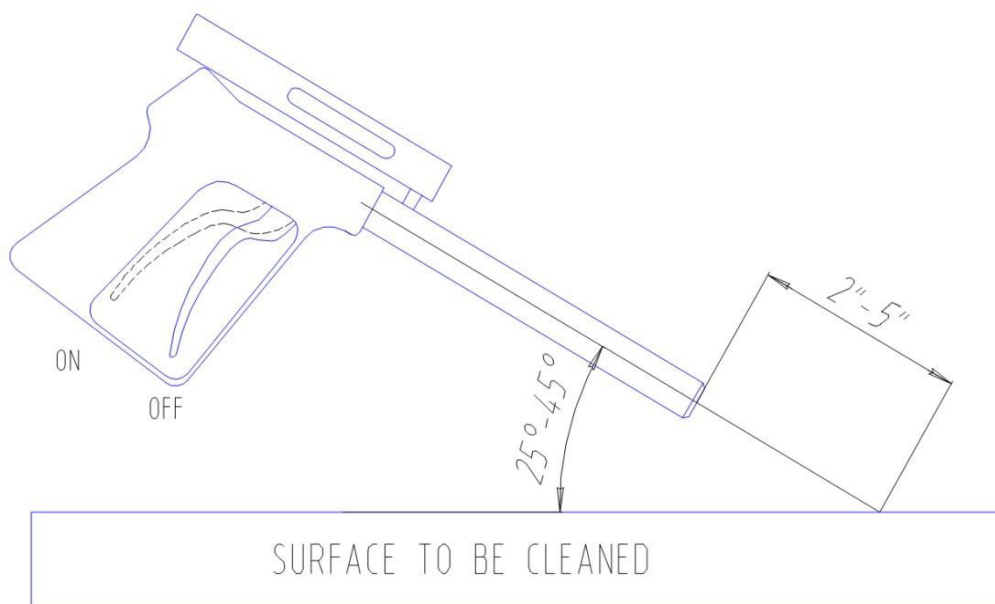

Figure 5.2 – Zero-thrust dump gun Position for Best Results
The pressure at the nozzle of the zero-thrust dump gun must be maintained within certain limits to achieve cavitation and for best performance results. Using a calibration pressure gauge tool situated between the pressure hose and the CaviBlaster zero-thrust dump gun, (See **Figure 5.2**) the water pressure should be 7,200 psi (500) with the gun submerged and the gun trigger in the open or “ON” position. For best results, repeat this calibration procedure if cleaning performance degrades, or every 3 months at a minimum.
A CALIBRATION GAUGE IS RECOMMENDED WITH EVERY UNIT. CONNECT BETWEEN THE MAIN PRESSURE HOSE AND THE WHIP HOSE OR ZERO-THRUST DUMP GUN. SEE FIGURE 5.2.
8. Hold the gun tight and observe the calibration gauge (See **Figure 5.2**).